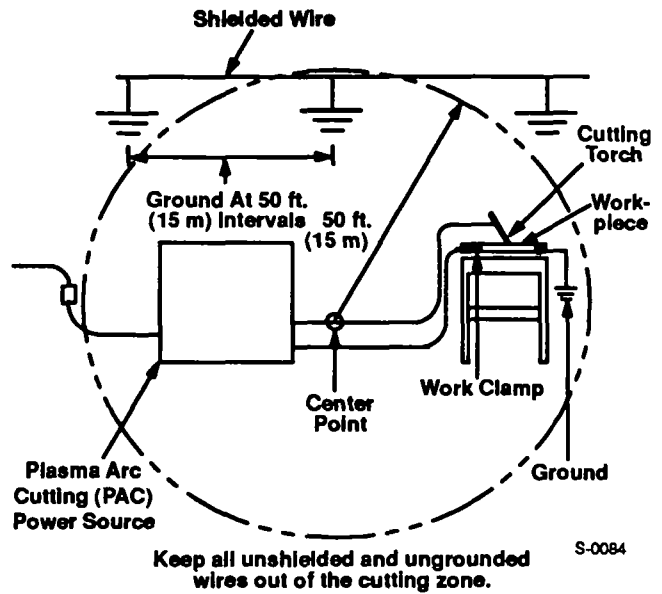
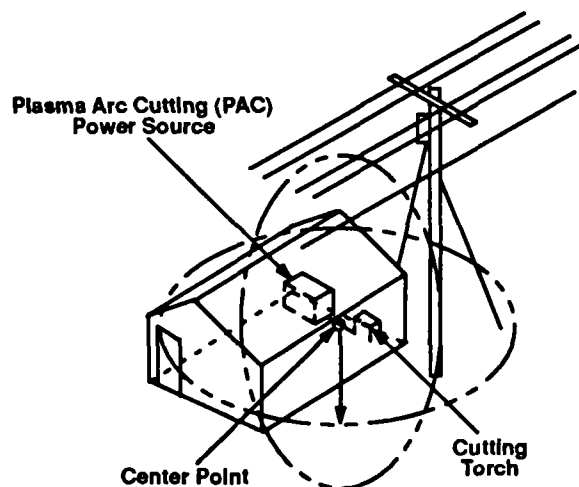

Figure 9-1. Requirements To Minimize Reradiation Pickup In The Vicinity Of The Cutting Zone
Figure 9-6. Cutting Zone
The cutting zone is the space within 50 ft. (15 m) in all directions from the midpoint between the power source and the cutting arc (see Figure 9-6).
Locate the power source as close to the cutting process as possible. Also consider the nearness of a suitable ground connection when selecting a site for the installation of the power source. Ideally, the power source should be located in an area where there is a limited amount of miscellaneous wiring (lighting, power, telephone, communications, and other unshielded conductors) located within the cutting zone. Ungrounded, metallic conductors in the cutting zone can act as antennas which will pick up, conduct, or reradiate the high-frequency energy transmitted by the cutting circuit. All miscellaneous wiring in the cutting zone should be enclosed in grounded, rigid metallic conduit, copper braid, or some other material having an equivalent shielding efficiency, and grounded at 50 ft. (15 m) intervals (see Figure 9-1).
7. Visualize the cutting zone as a sphere with a 50 ft. (15 m) radius centered on a point between the power source and the cutting torch (see Figure 9-1 and Figure 9-6), and proceed as follows: